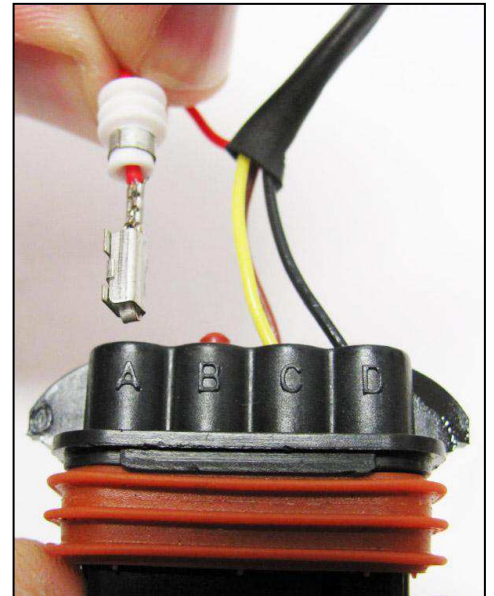

Figure 1
- C. Next, remove the plastic lock on the back of the male 8-pin FAST™ connector. Remove the cavity plug, if there is one, and insert in pin A. See Figure 1. Re-attach lock. If you do not do this, connect this red wire to a switched 12V ignition source.